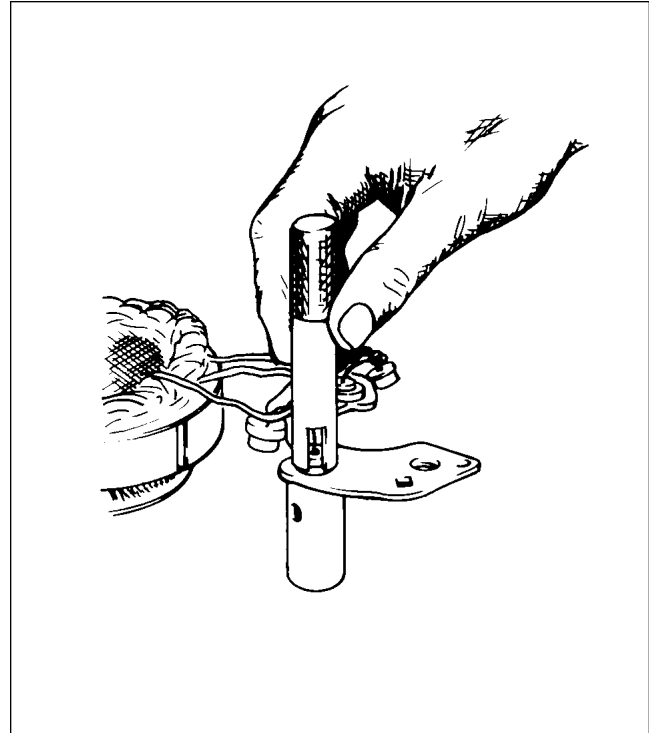

Figure 24-10. Installation of Rectifier
- b. Carefully install rectifiers in slip ring end head or rectifier mounting plate by supporting unit and using special tools illustrated in Figure 24-10.